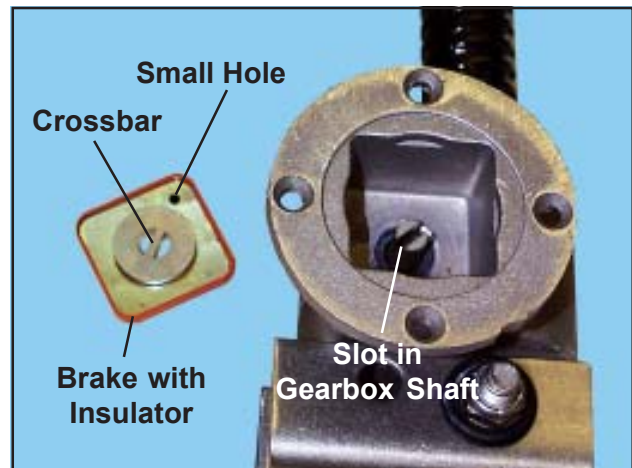

Figure 51. Brake and Gearbox
1. Place the brake into the brake insulator (Figure 51) with the small hole in the brake facing outward.